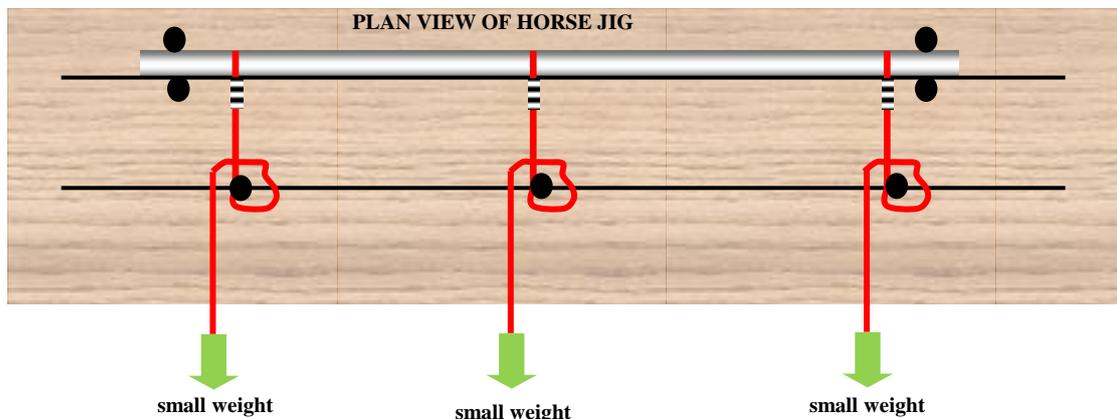

Figure 39: Horse Jig (advanced)
- The horse, fixed on one yard arm, is then passed through the stirrup eyes – I used a ‘needle threader’ to assist this operation. Again, small weights (in addition to those already attached to the stirrup ropes) are used this time to create a small degree of curvature as shown in Fig. 39 below. Glue is applied either side of the footrope.